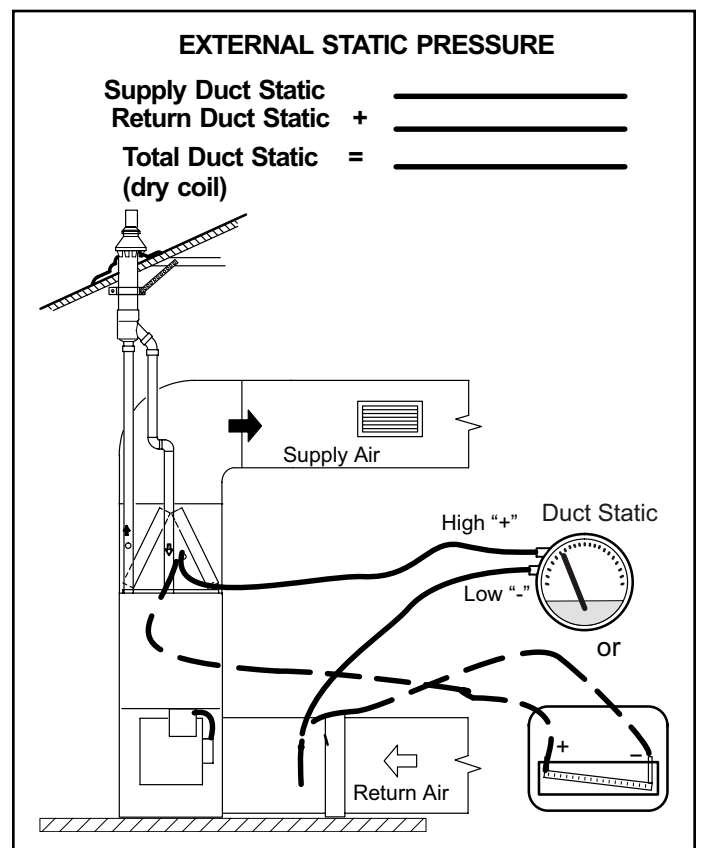

Figure 60.
1. Tap locations shown in Figure 60.